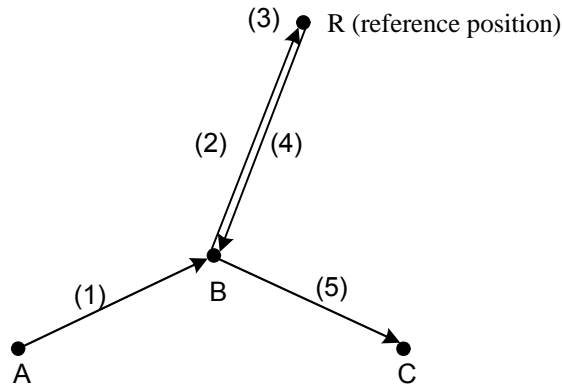

Fig. 3-15
- 1 . The movement of G28 block can be divided into the following (refer to fig 3-15):
- (1) Position from the current position to the intermediate point of the commanded axes at the rapid traverse rate (point A→point B).
- (2) Position from the intermediate point to the reference position at the rapid traverse rate (point B→point R).
1. The movement of G29 block can be divided into the following steps (refer to figure 3-15):
3. In G29 command format, the parameter X, Y and Z can be selected to specify the destination position for return from the reference position, such as point C in figure 3-15, and it can be indicated by the absolute or the incremental command. About the incremental programming, the commanded value specifies the incremental value away from the intermediate point. When some axis isn't specified, it means the relative intermediate point in the axis doesn't have any move amount. After G29, only the command with one axis returns independently, and other axes remains still.